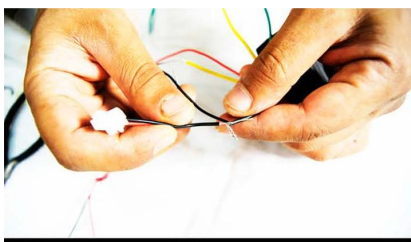
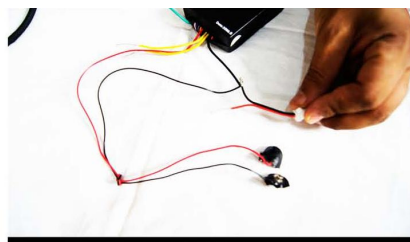
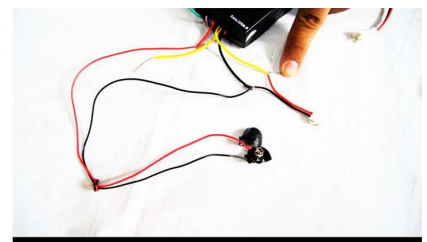

FIGURE 2.4
FIGURE 2.5
FIGURE 2.6
10. As shown in Figure 2.4 for the plastic connection that we had previously cut from the receiver, wrap one of the wires (it doesn't matter which one) of it to the negative (-) of the battery connector and the negative (-) of the receiver. That way, the negative (-) coming from the plastic connection is connected to both the battery connector and receiver as seen in Figure 2.5. Then with the other wire from the plastic connection, wrap it with either one of the yellow wires as shown in Figure 2.6 or with both. The benefit of using both yellow wires is two-fold. Firstly, it will give the circuit more voltage. Secondly, if one of the wires is defective, the other would suffice.